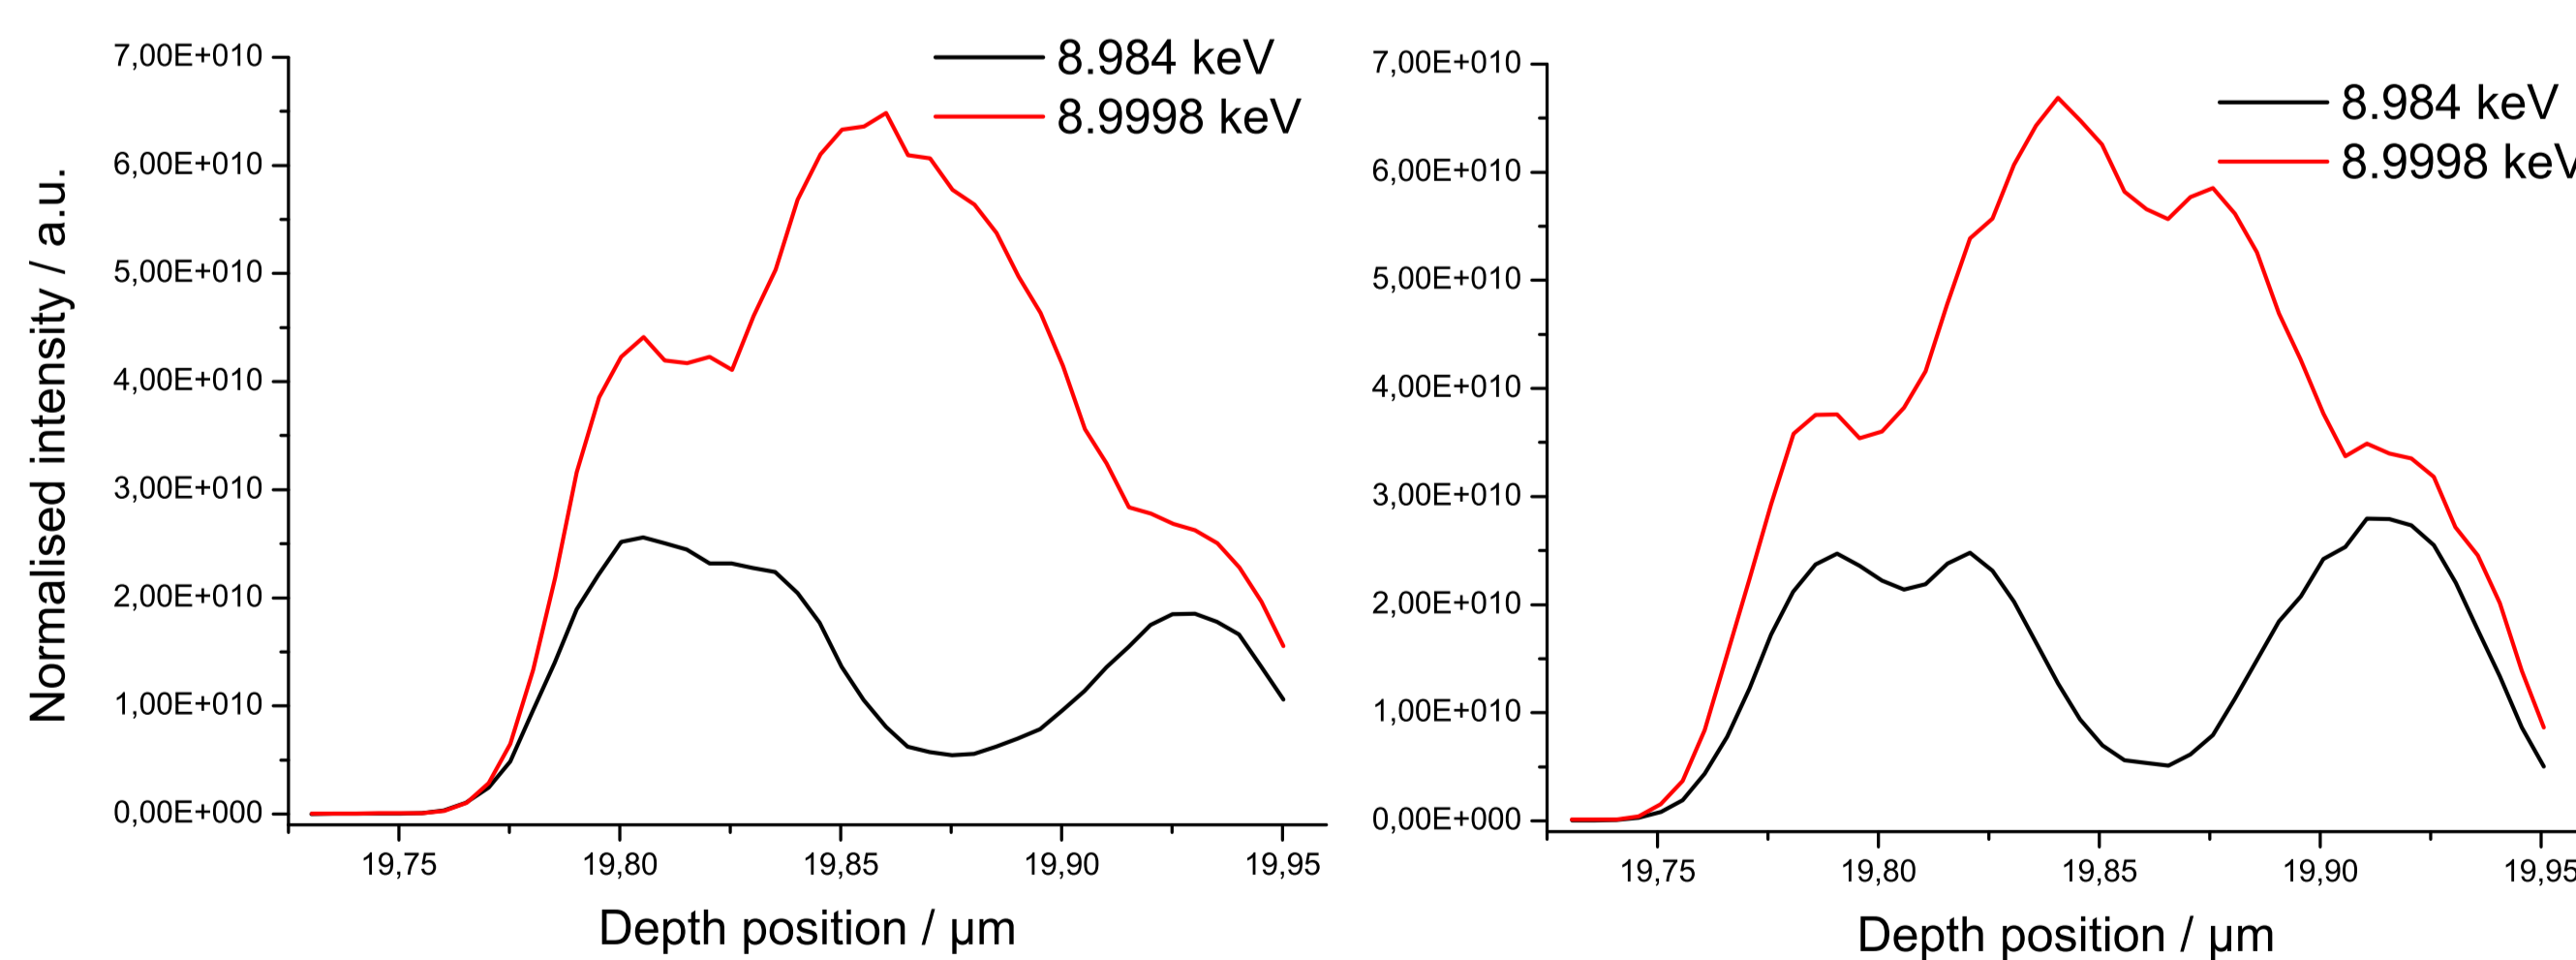

Figure 5: Depth scans at marker energies at two positions
- layers visible \rightarrow **Figure 5**
\rightarrow **Figure 5** (depth scans at two positions; at **8.984 keV** layers with Cu_2O show higher normalised fluorescence intensity than layers with CuO ; at **8.9998 keV** it is the **opposite way around**)